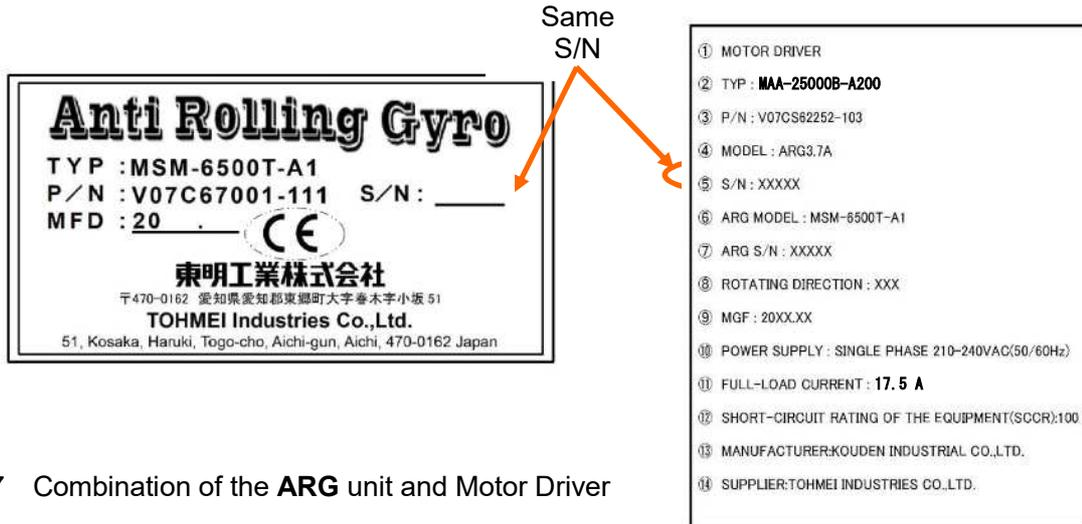

Figure 4-7 Combination of the **ARG** unit and Motor Driver
**Refer to Figure 4-7 for the example of insulation.**
<p>The Motor Driver must be connected only to a matched ARG unit. Make sure that the serial number (S/N) on the nameplate of the Motor Driver has a same serial number as the ARG unit.</p> <p>Not doing so could result in injury or malfunction. (Refer to the Figure 4-7)</p>